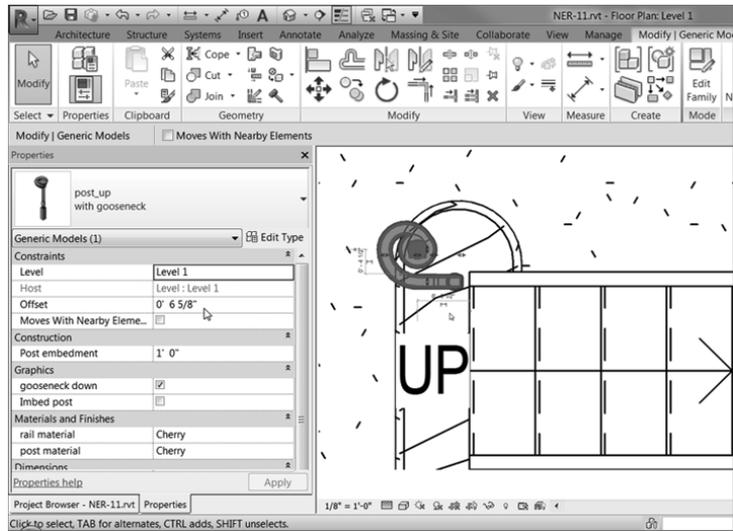

FIGURE 10.69: Placing the post with the gooseneck
1. In the Project Browser, go to the Level 1 floor plan, and zoom in on the landing area, as shown in Figure 10.69.